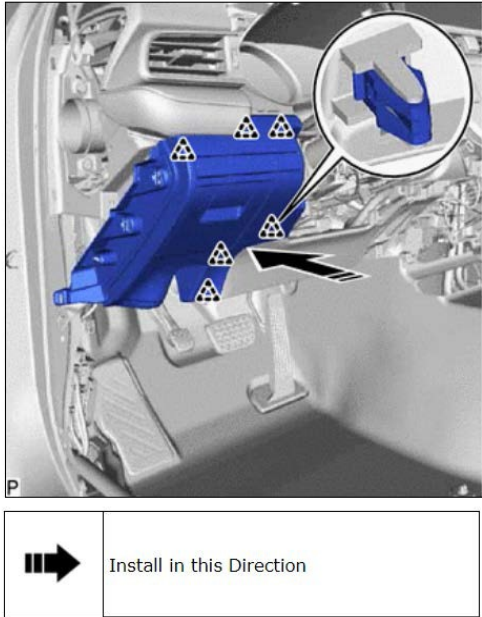

Figure 35
- (c) Engage the 6 clips to install the No. 1 instrument panel sub-assembly as shown in Figure 35